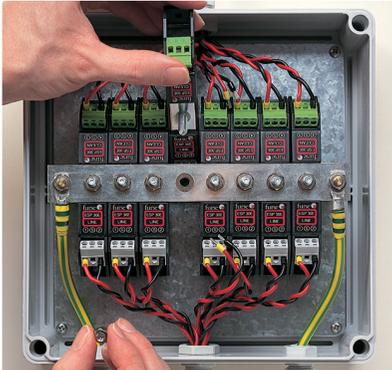

Figure 2: Removing a Lightning Barrier after installation
- (b) individual Lightning Barriers can be easily removed after installation (see Figure 2)